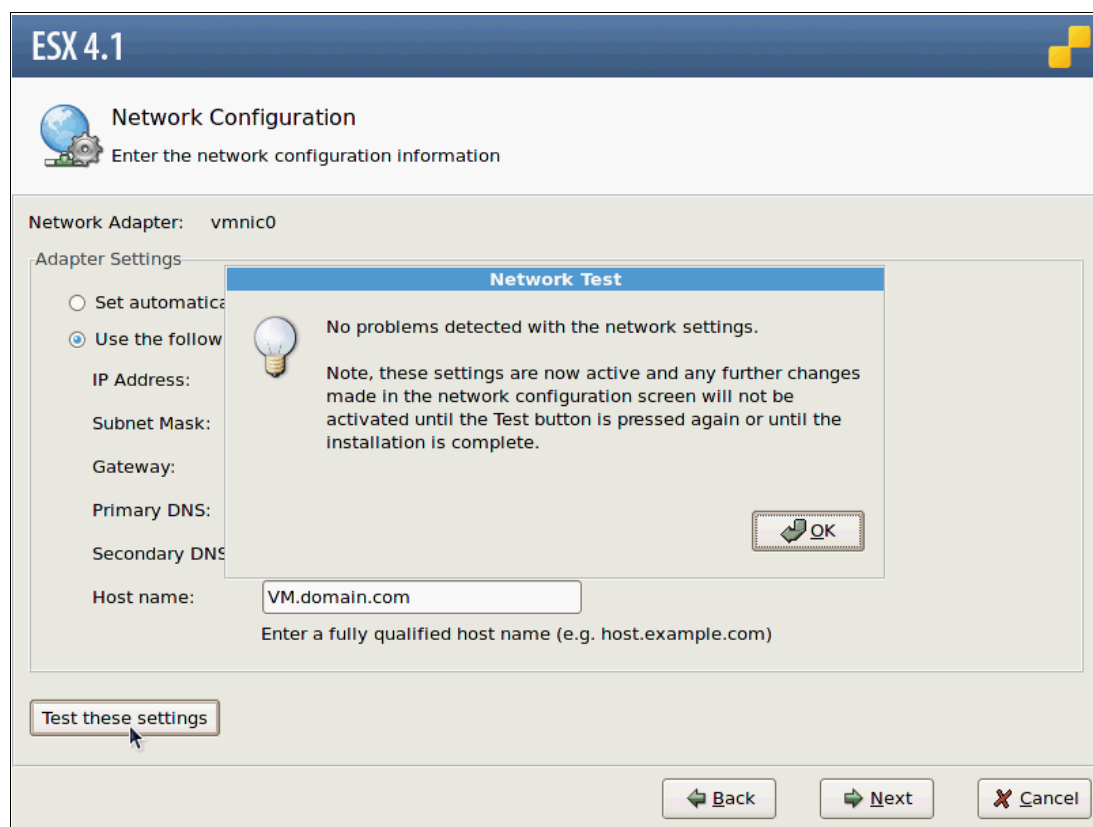

Figure 22-22 ESX Test Network settings
11. Click **Test these settings** to confirm correct network connectivity. See Figure 22-22. Click **OK** and then **Next** to continue.